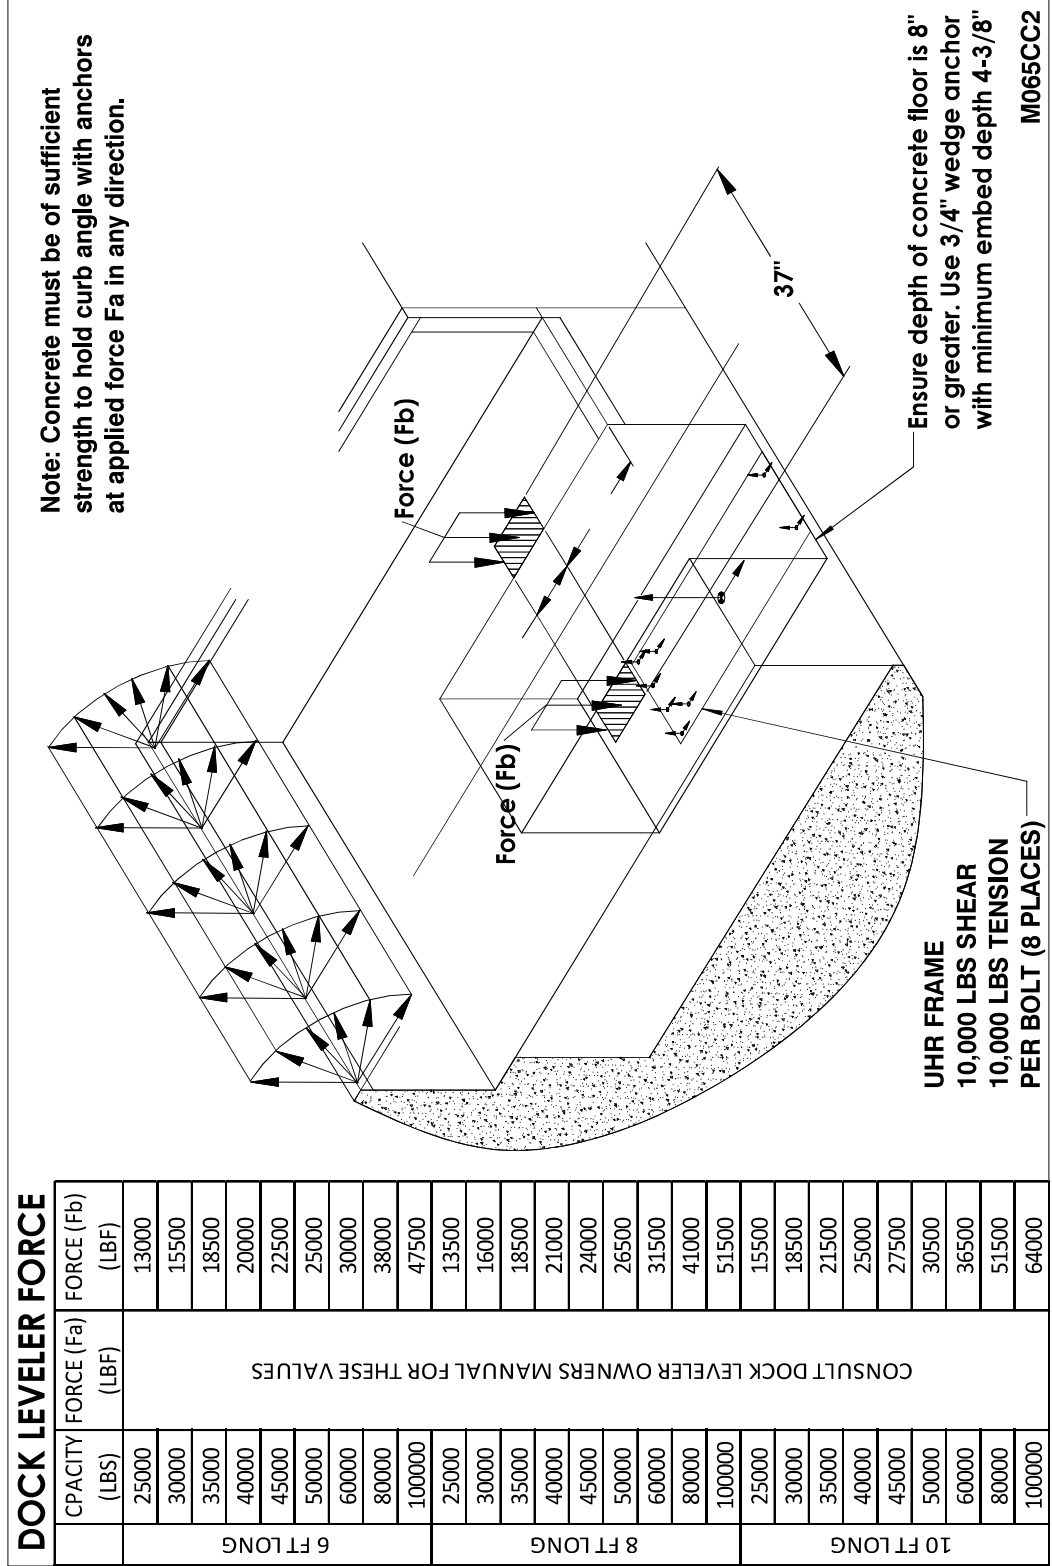

Figure 6: Concrete Loading Diagram for Lagged in Models
1. ___ Ensure pit construction has sufficient strength to meet the draw pull forces which will be applied. (See Figure 6: Concrete Loading Diagram for Lagged in Models on page 10.) Further, ensure the dock leveler pit, as well as the restraint pit, meet the pit diagram dimensions as provided by the manufacturer, complete with appropriate conduit(s).
8. ___ Lag the frame to the pit floor using 3/4" lag bolts with a minimum shear value of 10,000 lb and minimum tension value of 10,000 lb. (see Figure 6: Concrete Loading Diagram for Lagged in Models on page 10)